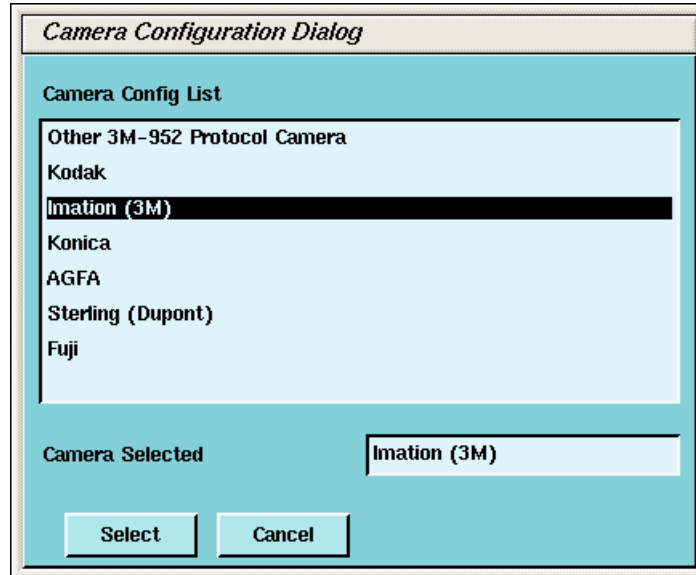

Figure 9-10 Camera Model Dialog (with DASM)
- 5.) To add a new laser camera, click DASM in the *Type of Laser Camera* dialog box. This displays a list of available camera models. Select the appropriate model from the list and click SELECT (see Figure 9-10). Now you must configure it.